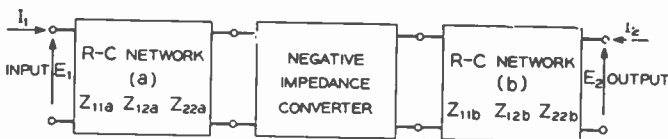
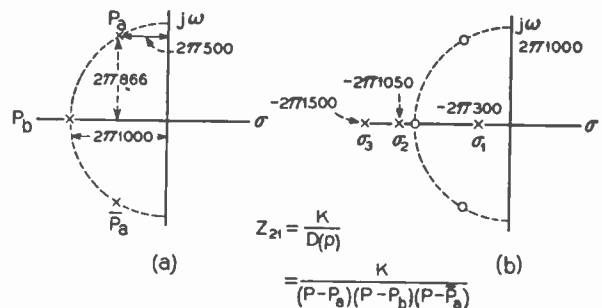
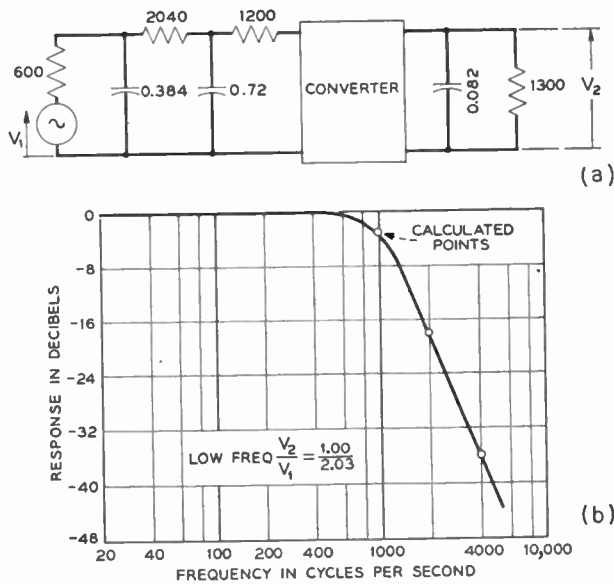

Fig. 1—RC active filter.
Fig. 2—Frequency-plane distributions of poles and zeros.
Fig. 3—Network and characteristic of active filter with Butterworth characteristic.
The denominator polynomial has zeros at complex frequencies which are the natural frequencies of the circuit. In passive RC circuits these zeros are restricted to the negative real axis of the complex frequency plane, and this constraint seriously limits the quality of approximation to an ideal filter characteristic which one can make using polynomials of a limited degree for N and D . Active RC circuits can have natural frequencies anywhere in the left-half plane, the same restriction applying to passive RLC filters. For the active RC filter of Fig. 1, one obtains for the transfer impedance by a straightforward analysis,
The principle of design of an RC active filter is simply this: for a transfer impedance (1) prescribed within a constant multiplier, the zeros of $D(p)$ are selected as the natural frequencies of the complete structure of Fig. 1. From this, by a method to be described, are obtained the driving-point impedances of structures a and b , Z_{22a} and Z_{11b} . Lastly, in the realization of the RC circuits, the structure form is selected to provide zeros of transmission at required frequencies, zeros of $N(p)$.
To illustrate the procedure it is convenient to describe the design of an active RC filter with a low-pass Butterworth characteristic and an attenuation level of 18 db/octave, cut-off occurring at 1,000 cps. For such a characteristic, the poles of the transfer impedance (zeros of $D(p)$) are known to fall on a semi-circle as shown in Fig. 2(a). The three zeros of transfer impedance all fall at infinity and $N(p)$ is a constant. The natural frequencies of the network to be designed must be at the complex frequencies noted on Fig. 2(a). If one breaks any loop of a network and determines the impedance between the terminals thus created, it is zero at the natural frequencies of the network. For Fig. 1 with attenuation on the loop at the input of the converter, natural frequencies occur where
The poles of the function of (3), must, by the nature of RC networks, fall singly on the negative real axis of the frequency plane. One can now pick three points on the negative real axis [$\sigma_1, \sigma_2, \sigma_3$, see Fig. 2(b)] and identify these as the poles of $Z_{22a} - Z_{11b}$. Hence, one has
of RC ladders with capacitor shunt elements and the filter synthesis is complete. For the critical-frequency distributions shown in Fig. 2, the network form will be that shown in Fig. 3(a). That this is the correct form of the filter can be understood by observing from the distribution of poles of $Z_{22a} - Z_{11b}$ in Fig. 2(b) that the residues in the poles at σ_1 and σ_2 are positive, while the residue in the pole at σ_3 is negative. The constant K and the partial fractions associated with the poles at σ_1 and σ_2 are accordingly identified with Z_{22a} and the partial fraction associated with the pole at σ_3 is identified with $-Z_{11b}$. The network synthesizes to realize Z_{22a} and Z_{11b} accordingly require two and one capacitors, respectively, as indicated in Fig. 3(a), which gives element values for a filter of this type. The plot of the measured transfer characteristic is shown in Fig. 3(b), along with a few calculated points of the characteristic.
The driving-point and transfer impedances of the active circuit shown in Fig. 1 are easily written in terms of the four-pole parameters of the RC networks. One obtains:
As pointed out earlier, natural frequencies occur where $Z_{22a} - Z_{11b}$ (Fig. 1) equals zero. If the input impedance of the converter changes from $-Z_{11b}$ by ΔZ , the natural frequencies shift until $Z_{22a} - Z_{11b} + \Delta Z$ is zero. Thus a natural frequency at p_a moves approximately
The value of $d(Z_{22a} - Z_{11b})/dp$ at a zero of $Z_{22a} - Z_{11b}$ is simply expressed in terms of the pole and zero locations. For the pole-zero distribution of Fig. 2(b),
For the design illustrated in Fig. 3 an evaluation based on the above relationship shows that for the natural frequency at $(-500 + j866)2\pi$